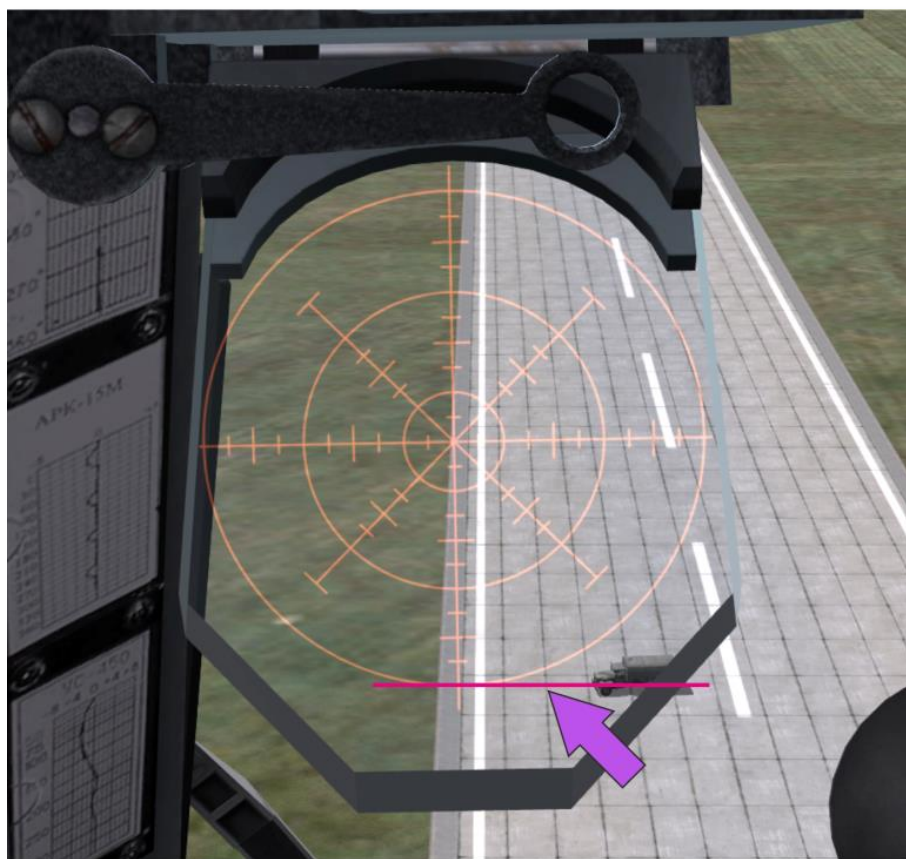

Fig. 12.5. Bomb release point in a LEFT crosswind condition; altitude 100 m
- e) In a crosswind condition, bombs are released when the target passes through an imaginary horizontal line that is tangent to the bottom point of the outside ring of the reticle (Fig. 12.5);